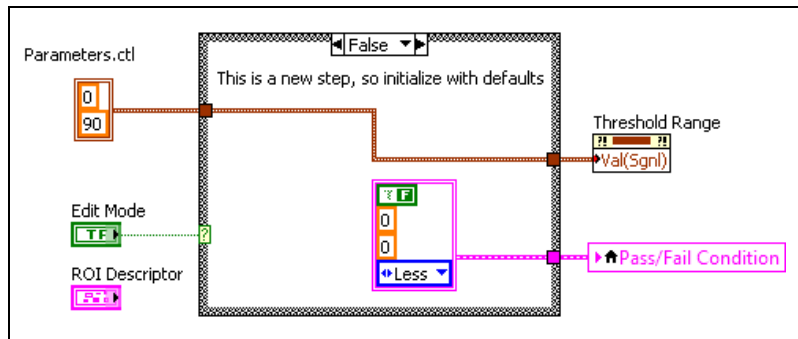

Figure 4-7. Initializing the Pass/Fail Controls with Default Values
5. Complete the following steps to build the block diagram shown in Figure 4-7: